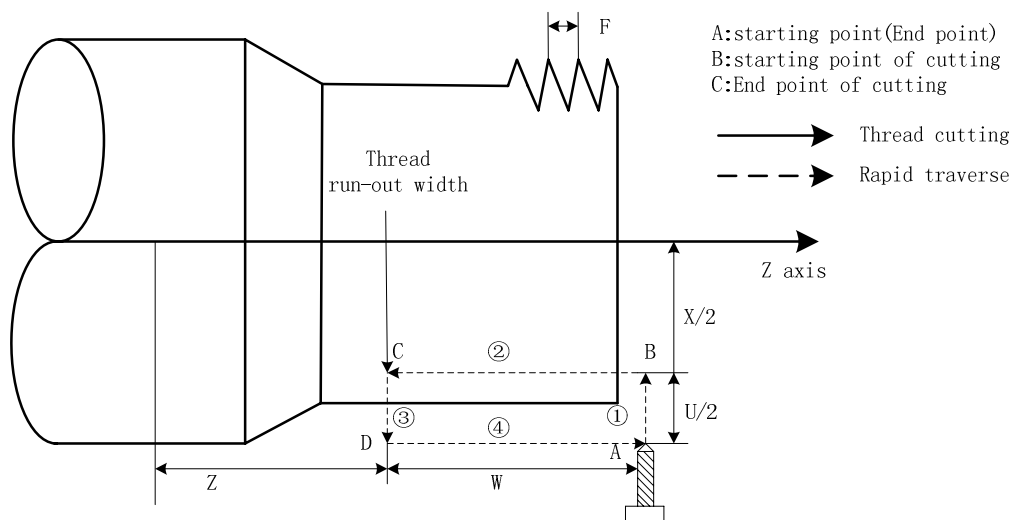
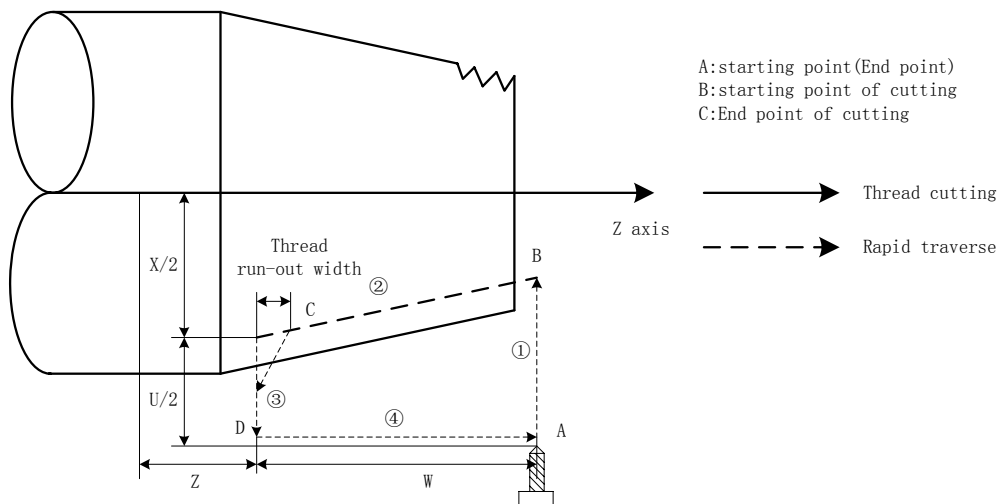

Fig. 3-44
Fig. 3-45
Command function: Tool infeeds in radial(X) direction and cuts in axial(Z or X, Z) direction from starting point of cutting to realize straight thread, taper thread cutting cycle with constant thread pitch. Thread run-out in G92: at the fixed distance from end point of thread cutting, Z executes thread interpolation and X retracts with exponential or linear acceleration, and X retracts at rapidly traverse speed after Z reaches to end point of cutting as Fig. 3-44.
Cycle process: straight thread as Fig.3-44 and taper thread as Fig.3-45.